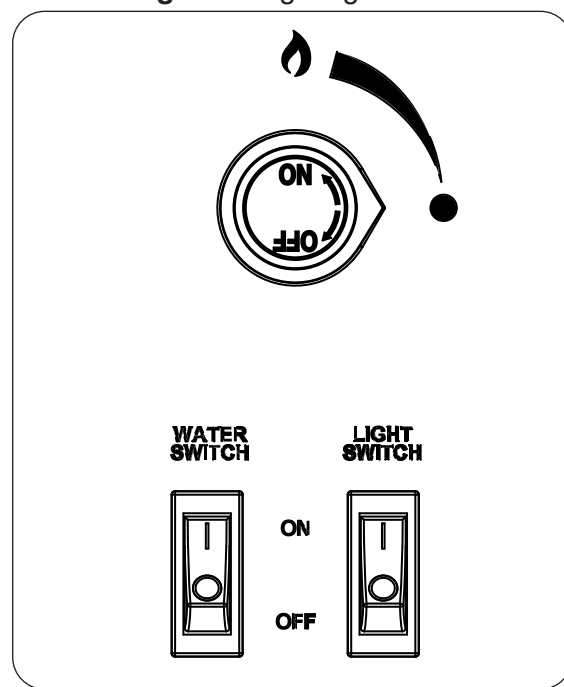

Fig. 37-2 Control box detail
4. **Once the flame is in position**, turn the gas control knob counter-clockwise to the **ON** position, depress, and hold for 15 seconds (see Fig. 37-2). Your burner should light within 5 seconds.
To extinguish your gas burner, turn the gas control knob clockwise to the OFF position (see Fig. 37-2). Be sure the control knob is turned fully off to avoid any gas leakage.
2. Flip the water switch (door side of firefall) to the ON (I) position (see Fig. 37-2).
1. Flip the light switch (door side of firefall) to the ON (I) position (see Fig. 37-2).